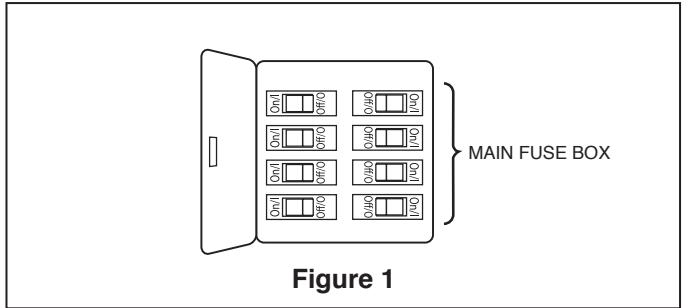

Figure 1
Your new ceiling fan will require a grounded electrical supply line of 220~240 volts AC, 60 Hz. The outlet box must be securely anchored and capable of withstanding a load of at least 15.88 kgs. **Figure 1** depicts different structural configurations that may be used for mounting the outlet box.
1. Cut off excess lead wire approximately 15.2 to 22.9 cm above top of the top of the downrod. Strip insulation off 1/2 inch from the end of each lead wire. (Figure 1)
To avoid possible fire or shock, be sure electricity is turned off at the main fuse box before hanging. (Figure 1)
To avoid possible electrical shock, be sure electricity is turned off at the main fuse box before wiring. (Figure 1)
1. Remove one of the two shoulder screws in the hanger bracket. Loosen the second shoulder screw without fully removing it. Assemble canopy by rotating key slot in canopy over shoulder screw in hanger bracket. Tighten shoulder screw. Fully assemble and tighten second shoulder screw that was previously removed. (Figure 1)
1. Secure the three blades using the 1/4"-20 screws with flat washers and blade plate assembly through the holes located on the bottom of the motor assembly. (Figure 1)
1. If airflow is desired in the opposite direction, turn the fan off and wait for the blades to stop turning. Then, slide the reverse switch on top of motor assembly to the opposite position and turn fan on again. (Figure 1)